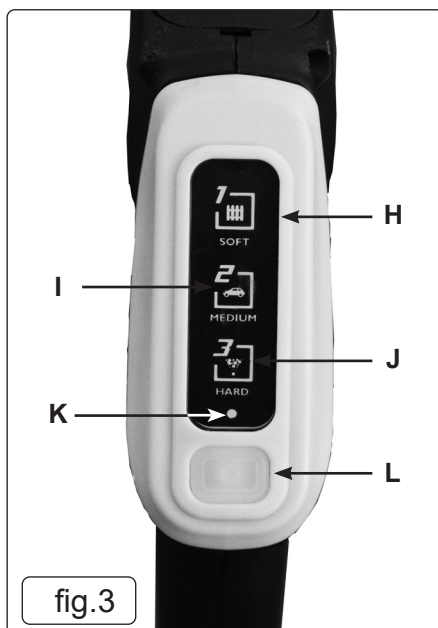

fig.3
- 5.7.2. To pair the gun to the unit, depress the multi function button (fig.3) for 5 seconds. The indicator light will flash and when the units are paired, the indicator light will go off.